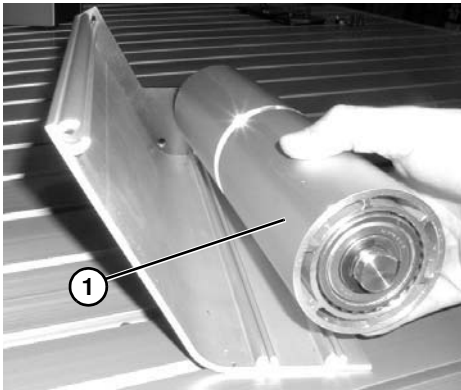

Figure 163
5. Slide the idler pulley assembly (**Figure 163, item 1**) out of the idler guide side plate on the opposite side.